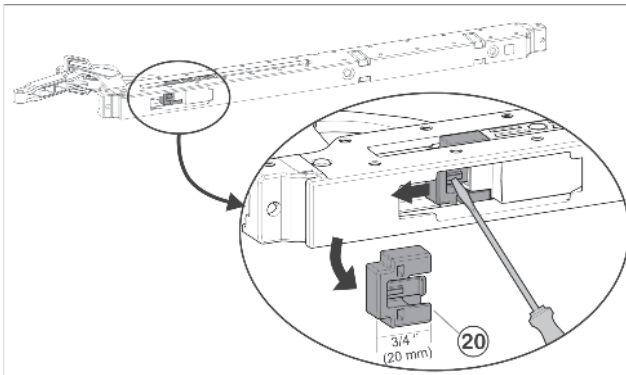

Fig. 54
- ▶ Remove opening limiter (110°) *Fig. 54 (20)* on soft stop mechanism: Press down notch using screwdriver and pull off opening limiter *Fig. 54 (20)*.